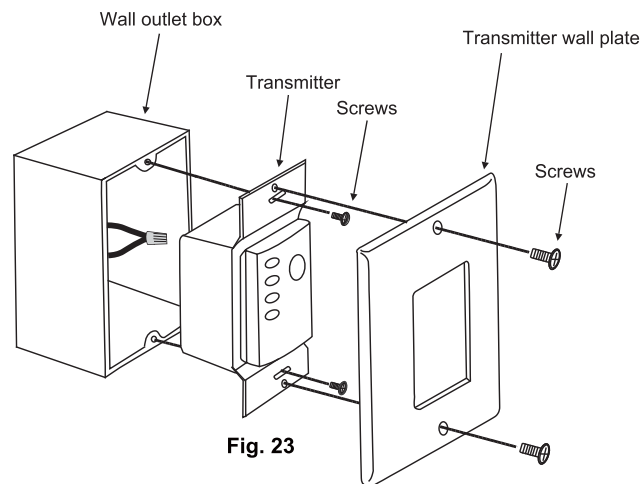

Fig. 23
Step 2. Use the screws provided to install the transmitter to the wall outlet box (**Fig. 23**).
Step 3. Use the screws provided to install the transmitter wall plate (**Fig. 23**).